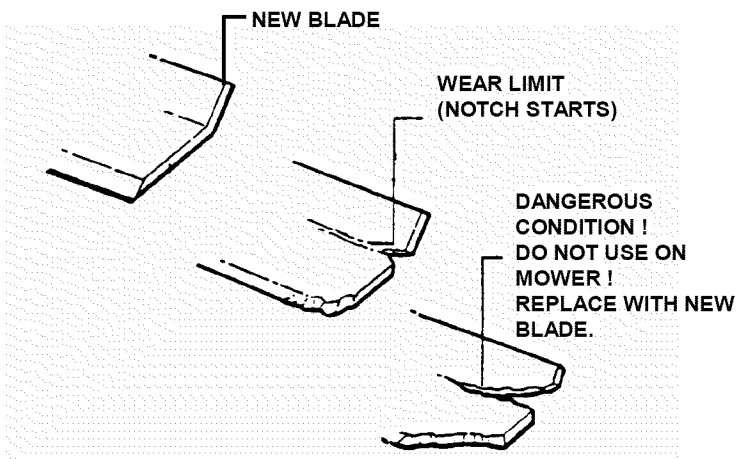

FIGURE 4.1
1. Inspect blade frequently for signs of excessive wear or damage. See Figure 4.1.
2. Replace the blade if it is badly chipped, bent, noticeably out of balance or has cracks or notch in either tip. See Figure 4.1. Replace with new blade.
6. Reinstall blade. See Figure 4.1. Check torque of blade retaining cap screw. Recommended torque should be 30 to 40 ft. lbs.